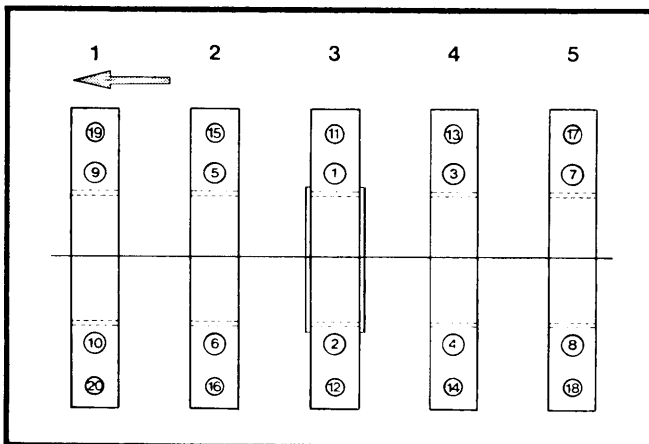

Fig. 6 Crankshaft Main Bearing Tightening Sequence
5) When proper clearance is calculated, clean and oil all parts and install crankshaft. Torque to specifications according to sequence. See Fig. 6.